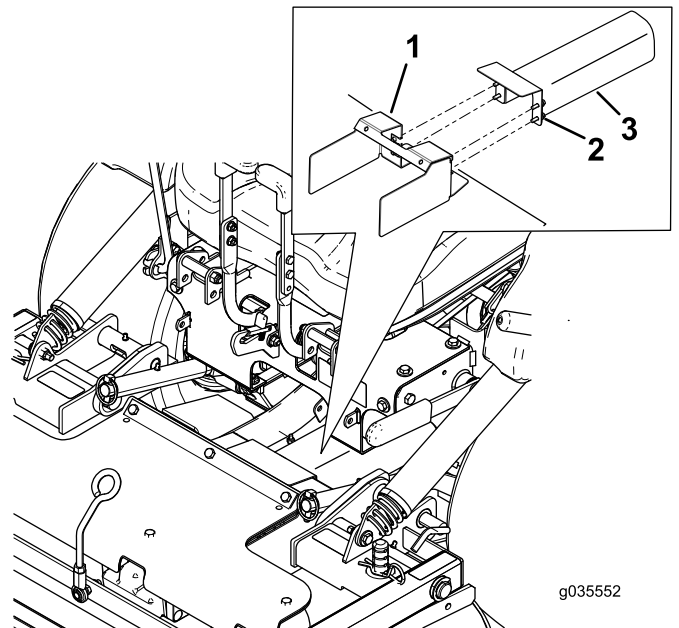

Figure 16
5. Install the metal guards with the attached bolts shown in Figure 16.